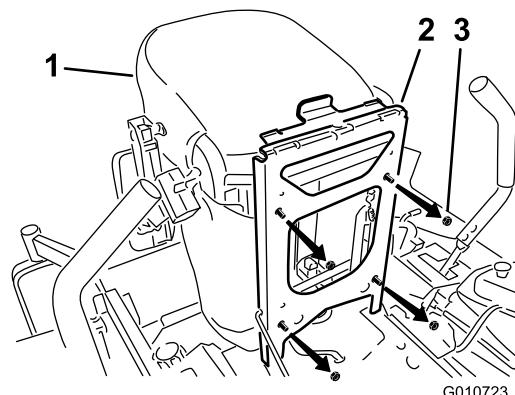

Figure 1
2. Remove the nuts holding the seat to the mounting frame (Figure 1).